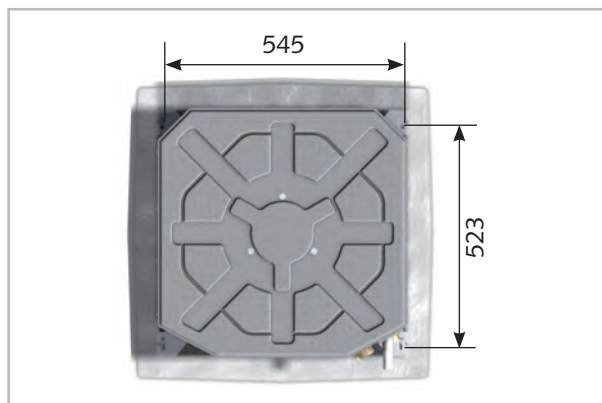

Fig. 10: Hooking in the unit (MVD 222-452)
1. Use the dimensions of the ceiling cassette to mark the fixing points for the threaded rods on structural parts approved to support the static load above the suspended ceiling (Fig. 10).